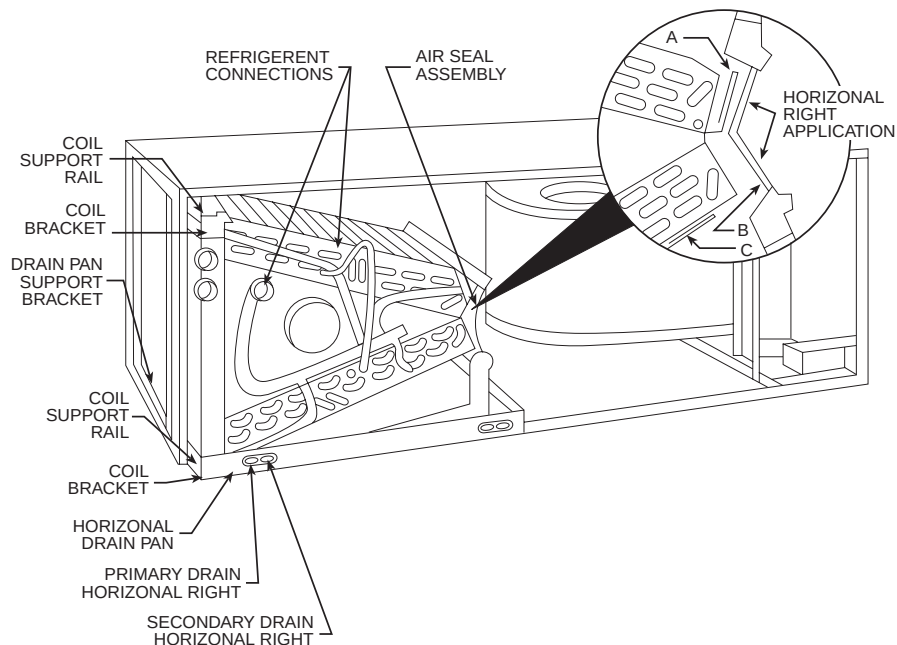

Fig. 1 — A-Coil in Horizontal Left Application (factory ready)
- a. Remove blower and coil access panels (See Fig. 1)
2. Remove air seal by removing 4 screws (See Fig. 1).